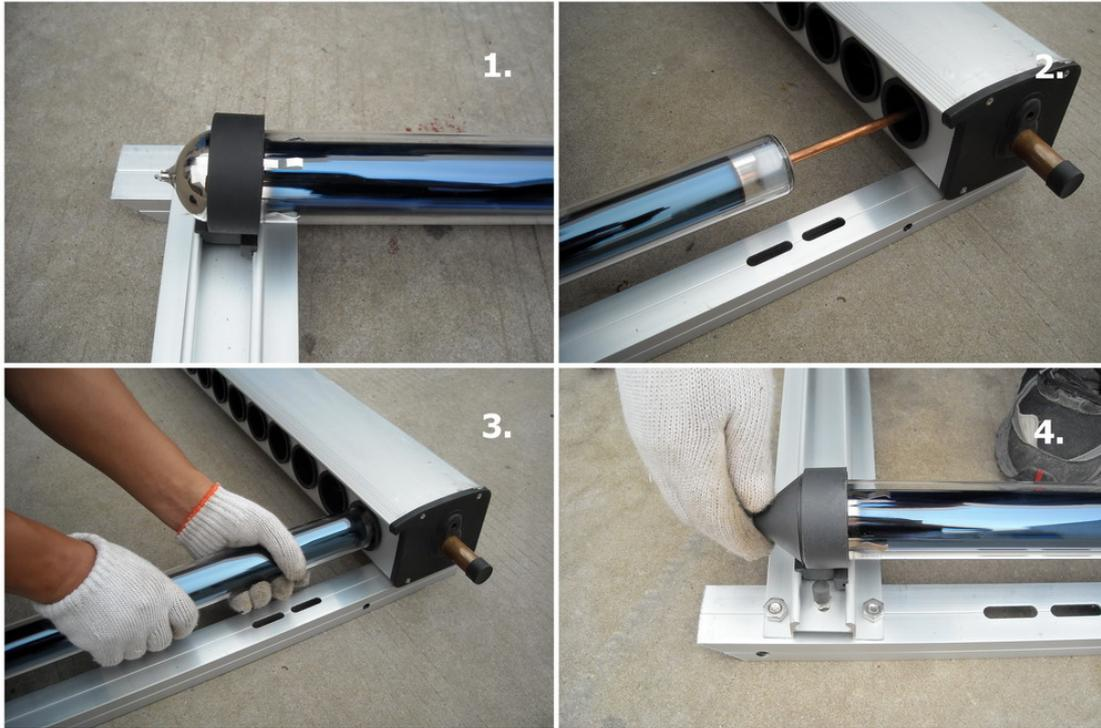

Fig 3.17
- c) Screw the black cup you removed back into the bottom rings, covering the silver ends of the solar tubes, secure tightly. This will hold all the tubes in place. See Fig. 3.17 below for greater detail.